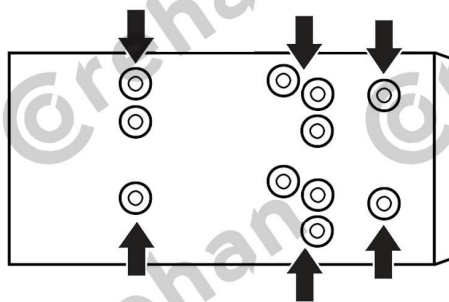
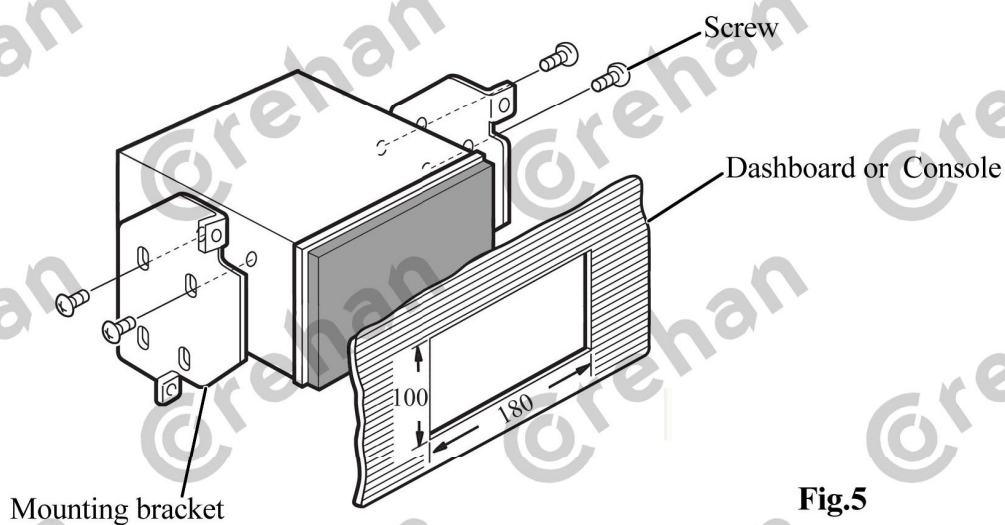

Fig.4
Fig.5
2. Fastening the unit to the radio mounting bracket. (Fig.4)(Fig.5)